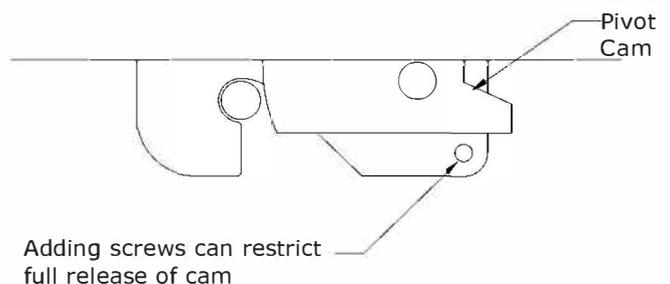

Figure 4
5. Pivot cams can be restricted from full release by two small screws. These deter unauthorized removal of the top unit (Figure 4).